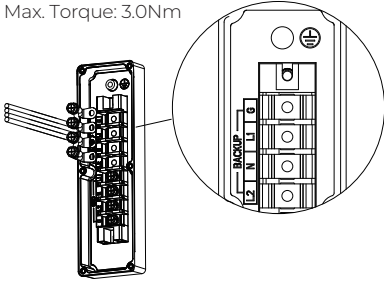

Figure 6-13-3
**Step 3:** Fix the terminals to the inverter BACKUP and GRID areas with a cross screwdriver as shown in Fig. 6-13-3 and Fig. 6-13-4.